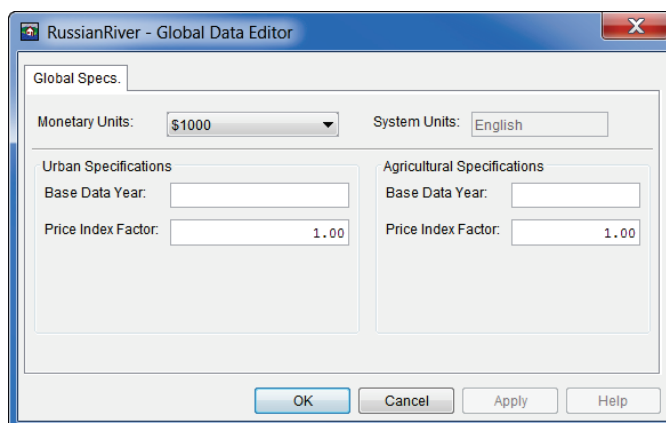

Figure L.47 HEC-FIA – Global Data Editor
2. The HEC-FIA **Global Data Editor** will open (Figure L.47). This editor allows the user to edit the global data that has been defined for an FIA model alternative. For further detail on this editor, reference the HEC-FIA User's Manual.